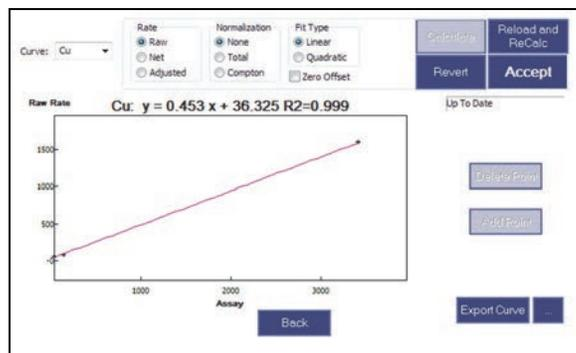

Figure 6-14 Curve display
6. To display the curve with the current settings, click **Calculate** (see Figure 6-14 on page 90).